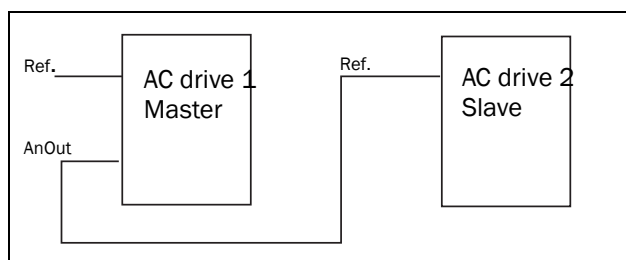

Fig. 98
- a reference signal for the next AC drive in a Master/Slave configuration (see Fig. 98).